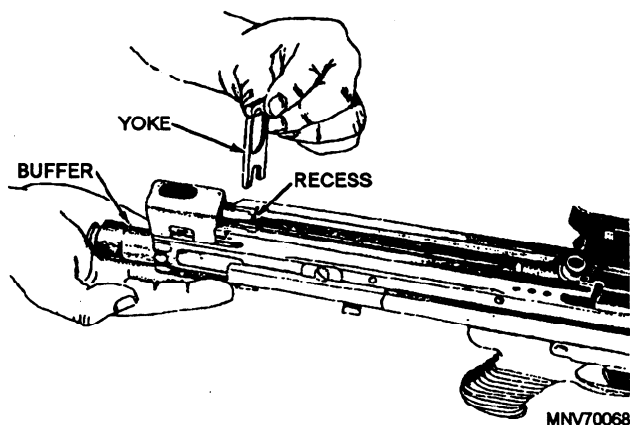
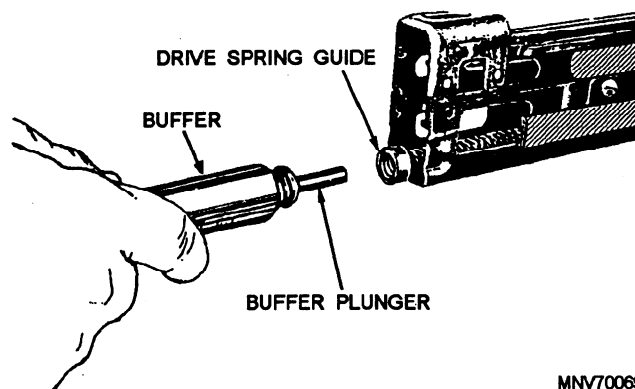
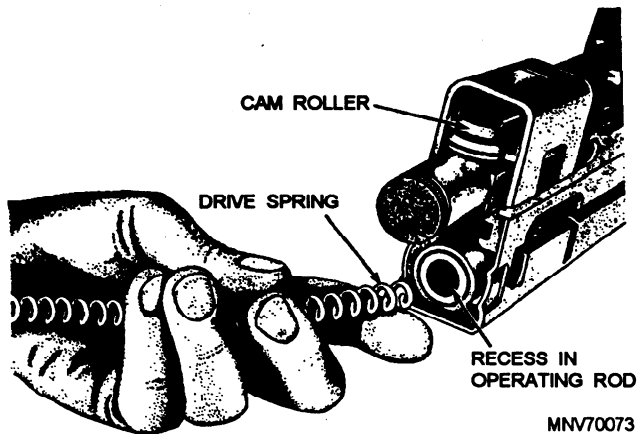

Figure 2-55.—Removing the buffer group.
Figure 2-56.—Separating the buffer from the drive spring guide.
Figure 2-60.—Inserting the drive spring.
**REMOVING THE BUFFER GROUP.**—The buffer assembly group consists of the buffer yoke and the buffer. To disassemble the group, hold the palm of your hand against the exposed buffer and press the buffer lightly. Remove the buffer yoke from the top of the receiver as illustrated in figure 2-55. Withdraw the
buffer slowly. Allow the drive spring to expand until the end of the drive spring guide is exposed at the rear of the receiver. Pull the buffer plunger from the drive spring guide (fig. 2-56).
and the bolt into the receiver until the end of the operating rod is even with the rear of the receiver. Insert the drive spring guide into the drive spring; then insert the opposite end of the drive spring into the recess of the operating rod, as shown in figure 2-60. Pull the trigger and push in the drive spring until the head of the guide is approximately one inch from the receiver (fig. 2-56).
4. Insert the buffer plunger into the drive spring guide, as shown in figure 2-56. Push forward on the buffer until the operating rod and the bolt go fully forward. Push in on the buffer until the recesses on the buffer are aligned with the recesses in the receiver. Replace the buffer yoke from the top of the receiver, as shown in figure 2-55.